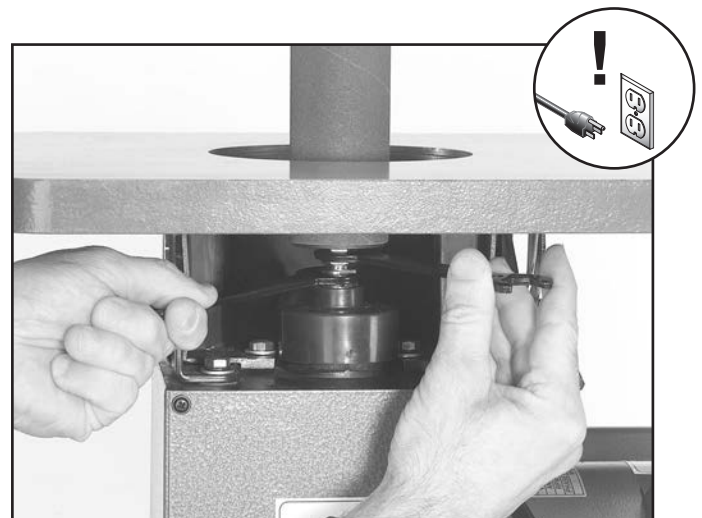

Figure 7. Installing spindle.
4. Use the supplied open end wrenches to secure the spindle as shown in **Figure 7**. Note—*Do not over tighten the spindle sleeve, it could make removal difficult.*